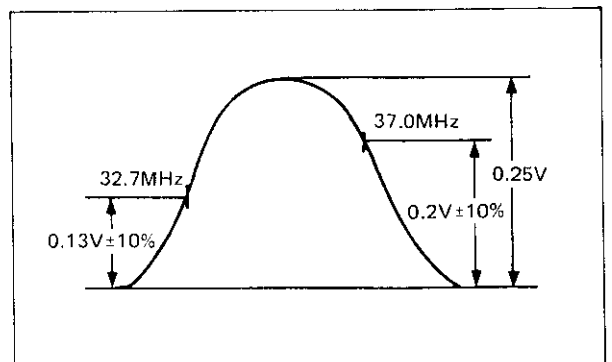

Fig. 6-4
1. Align the 32.7MHz marker with 0.13V, the 37MHz marker with 0.2V by alternately rotating cores T101, T102 and T103 (see Fig. 6-4).
1. After connecting the cables as shown above and confirming that the correct waveform exists, connect the oscilloscope input terminal to the tuner AFC terminal (see Fig. 6-4).